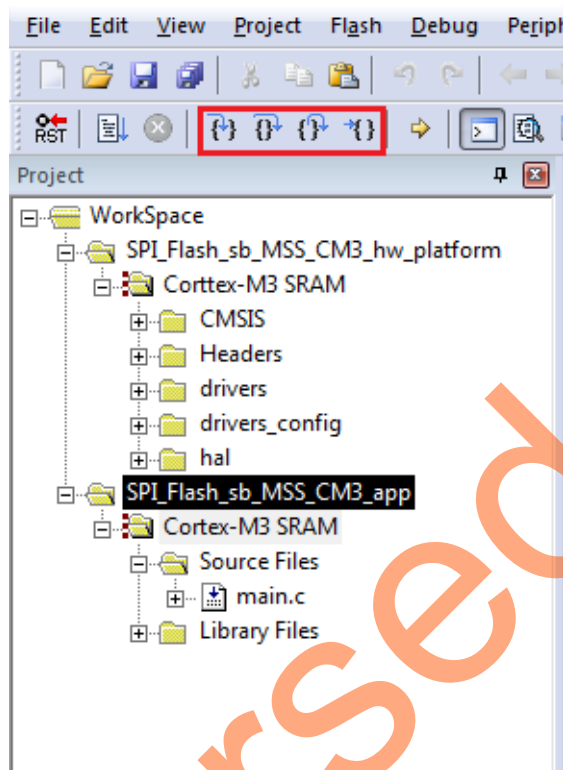

Figure 45 • Keil uVision Workbench - Step Level Debugging
8. The Step Level Debugging can be performed before running the application using **Run**. These can be accessed from the Debug menu or on the Keil uVision workbench as shown in Figure 45:
- Source code can be single-stepped by selecting from the Debug menu **Debug > Step**, **Debug > Step Over**, **Debug > Step Out** or by selecting the respective options from the Keil uVision workbench as shown in Figure 45. Observe the changes in the source code window and Disassembly section. Performing a step over provides an option for stepping over functions. The entire function is run but there is no need to single-step through each instruction contained in the function.